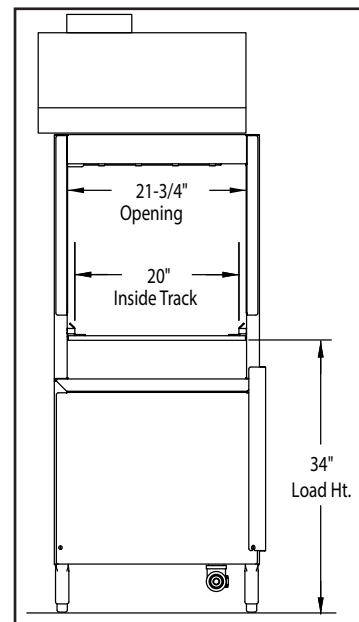

Fig. 4 - Load height.
2. Level machine, and adjust load height to approximately 34" [864 mm], (Fig. 4).